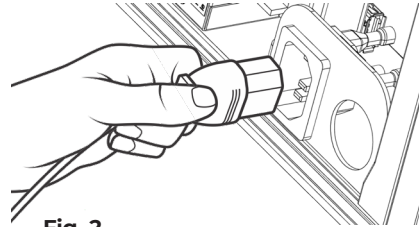

Fig. 2
1. Plug the female end of the provided AC Power cord into the plug of the AC Power Bracket. (Fig. 2).